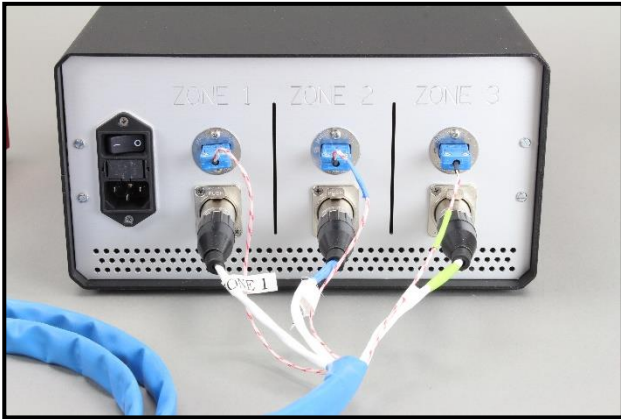

**Figure 5. Assembled 3-Zone Reaction Block**
3. Following the preceding steps, you will arrive at the fully sealed reaction block, shown in **Figure 5**, ready for heating.